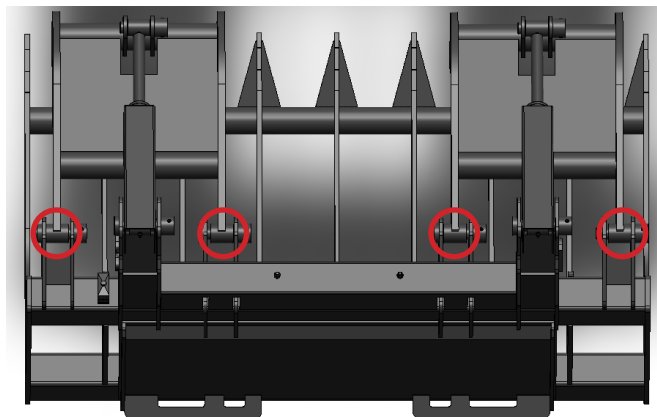

Figure 1
The HDX Root Grapple has four (4) grease points. These points are circled in Figure 1.